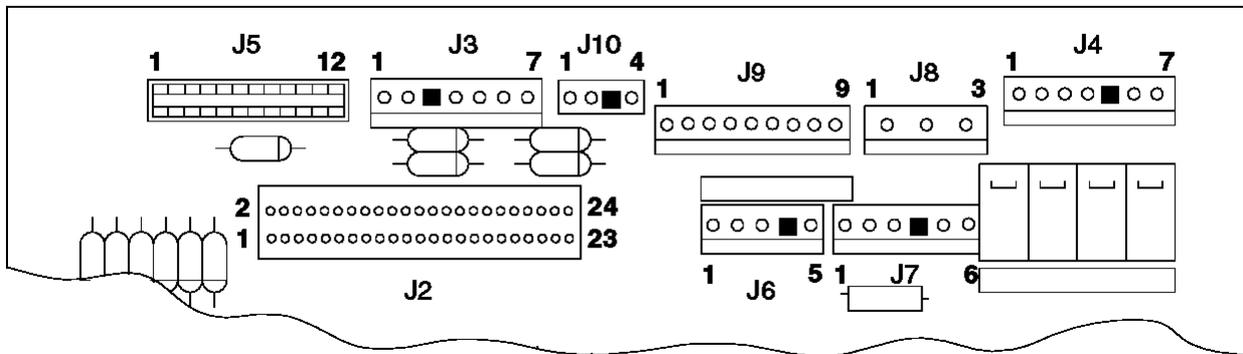

Figure 6-6. Printer Card Connections
- Disconnect cable J8 from the printer card. See Figure 6-6.